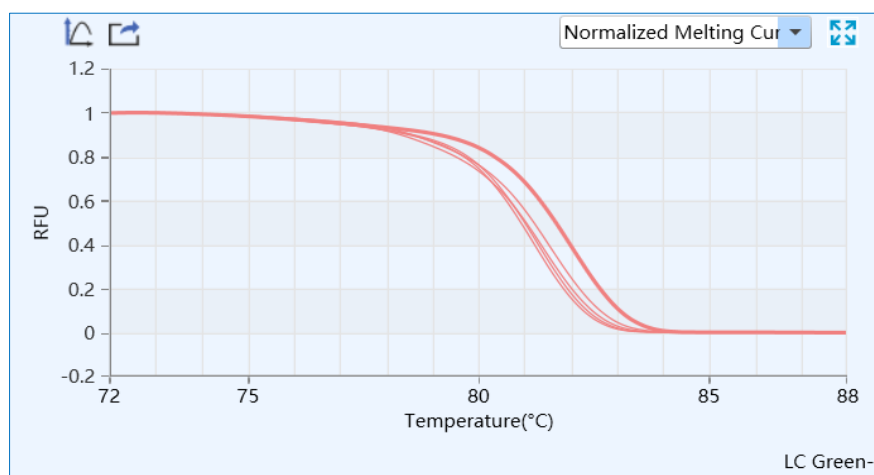

Figure D-14.2. HRM Analysis Interface - Normalized Melting Curve Functional Module
- II. **Normalized Melting Curve:** display the normalized melting curve according to the normalization method and fluorescence normalization settings, as shown in figure D-14.2. For more details, please refer to D-3.3.4.4 High Resolution Melting - High Resolution Melting Analysis Setting.